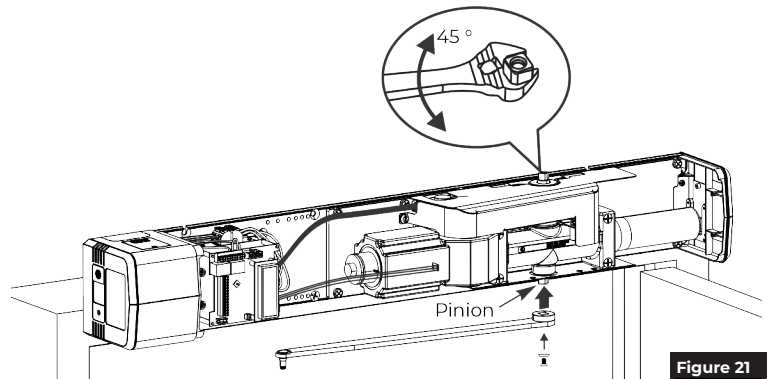

Figure 21
2. Using an adjustable wrench, rotate top pinion 45 degrees toward door hinge. You will feel resistance from spring. (Figure 21)
3. **While holding pinion at 45 degrees**, slide arm on bottom pinion parallel to frame as shown. (Figure 21)
4. Secure arm to pinion with 1/4-20 x 1/2" screw and countersunk patch washer. (Figure 21)